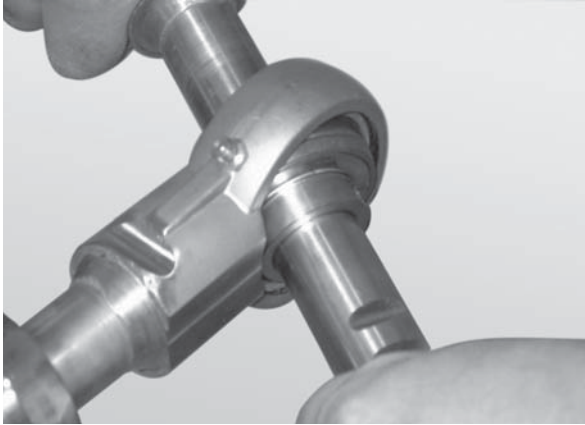

Figure 63
2. Insert the rod end of a second bearing shaft through the bearing (**Figure 63**).